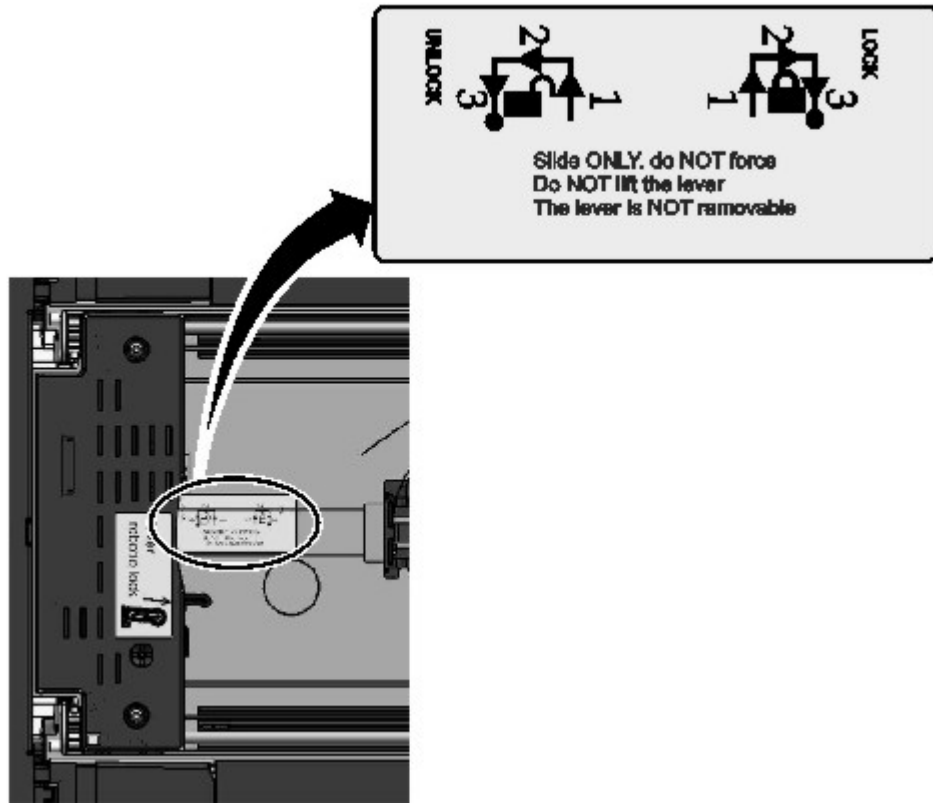

Figure 74. Unlocking the robot
10. Unlock the lever and set aside the accessor. See Figure 74 on page 127.